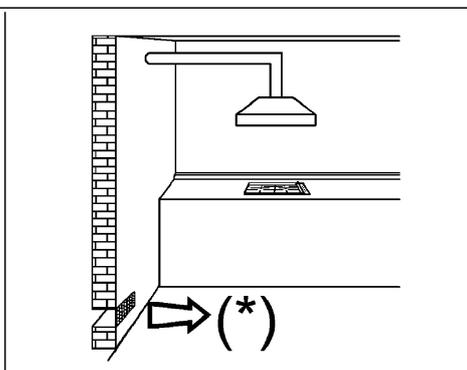

FIG. 2
**NOTE:** The use of a gas cooking appliance results in the production of heat and moisture in the room in which it is installed. Always ensure that the kitchen is well ventilated; keep natural ventilation holes open or install a mechanical ventilation device (fig. 2).